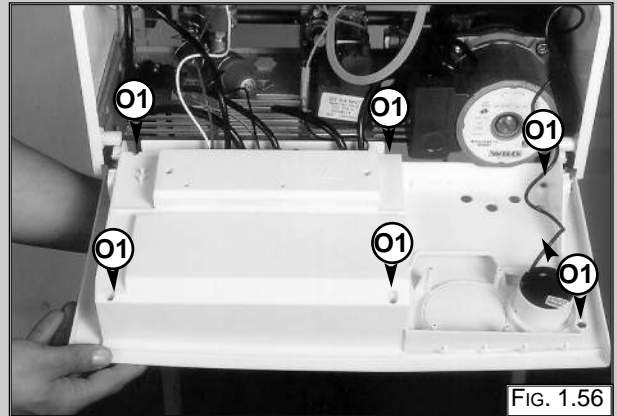

FIG. 1.56
2. Remove the screws "O1" (FIG. 1.56);